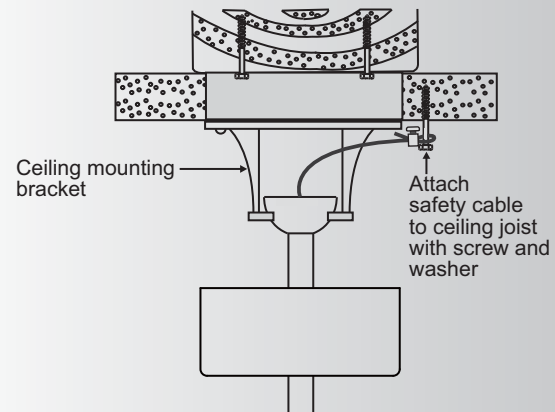

Fig. 12
**Step 1.** Attach the provided wood screw and washers to the ceiling joist next to the mounting bracket but do not tighten. (Fig. 12)